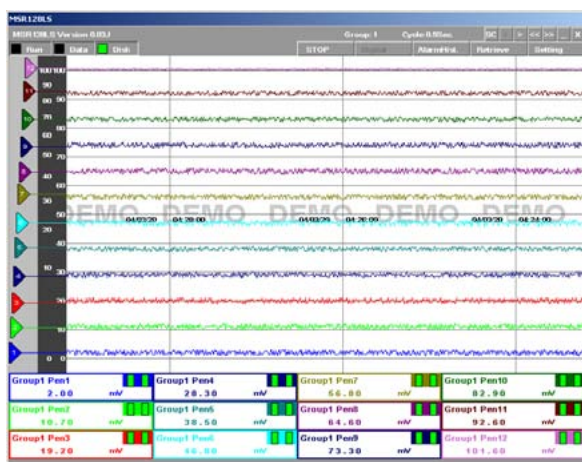

Figure 4.1.2b: Horizontal graph (→).
- Horizontal (→): Data stream from the left to the right (Figure 4.1.2b)